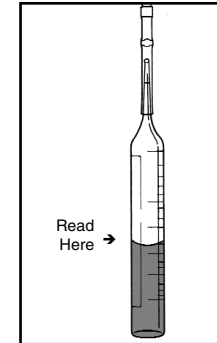

Figure 5
16. When the color of the liquid in the Titret ampoule changes to BLUE, stop adding liquid and remove the ampoule from the Titrettor. Hold the Titret ampoule in a vertical position (flat end down, tapered tip up) and carefully read the test result on the scale opposite the liquid level to obtain test results in ppm (mg/Liter) calcium carbonate (fig 5).